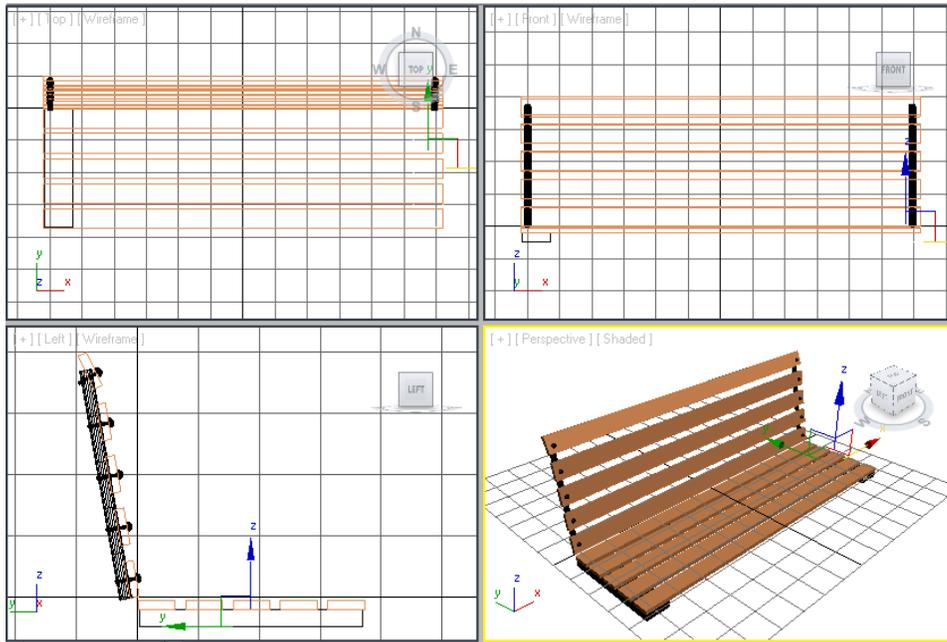

Figure 2-77 Alignment of the leg support002 with the horizontal seat support
7. Choose the **Select and Move** tool and align the *leg support002* to the *horizontal seat support* in all viewports, as shown in Figure 2-77.